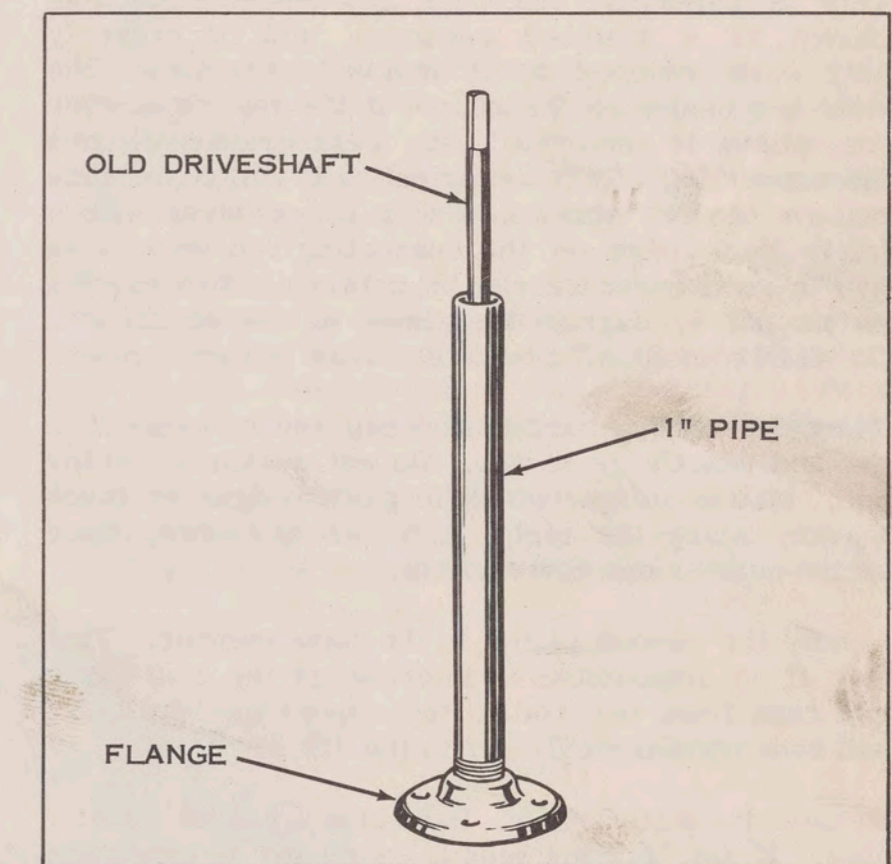

Figure 5-2. Power Head Stand
- e. Remove the lower unit. For working on power head, we recommend that you construct a bench stand as illustrated in Figure 5-2. By using appropriate upper portions of old driveshafts, all but the 3 H.P.